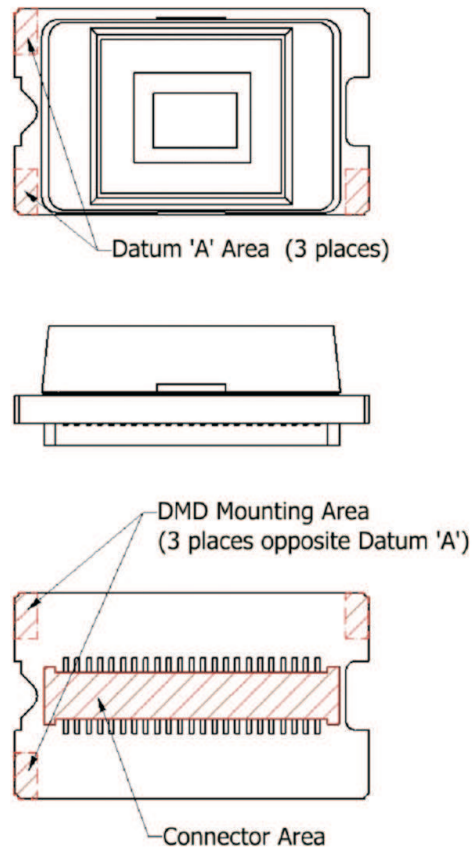

Figure 7. System Interface Loads
- (1) All voltages referenced to V_{SS} (ground).
- (2) Voltages V_{CC}, V_{REF}, V_{OFFSET}, V_{BIAS}, V_{RST} are required for proper DMD operation.
- (3) Exceeding the recommended voltage difference between V_{BIAS} and V_{OFFSET} may result in excessive current draw. See the Absolute Maximum Ratings for further details.
- (4) Load should be uniformly distributed across the entire connector area. Refer to the Package Mechanical Characteristics for size and location of the connector interface area.
- (5) See Figure 7
- (6) Load should be uniformly distributed across the 3 datum-A surfaces. Refer to the Package Mechanical Characteristics for size and location of the datum-A surfaces.